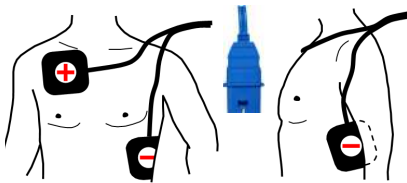
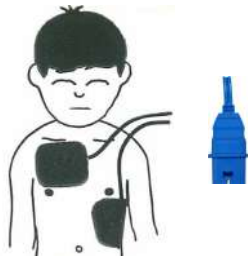

Fig. 5.2 Adult electrode application sites
Fig. 5.3 Electrode application sites for children weighing 25 kg or more
Electrode placement is the same for adults and for children weighing 25 kg or more (see Fig. 5.2 Adult electrode application sites and Fig. 5.3 Electrode application sites for children weighing 25 kg or more).
1. Clean and dry the application points for the electrodes (see Fig. 5.2 Adult electrode application sites page 86/Fig. 5.3 Electrode application sites for children weighing 25 kg or more page 86). Only clean the skin by vigorously rubbing it with a dry cloth.
3. Apply the other electrode slantwise below the left breast as illustrated in Fig. 5.2 Adult electrode application sites page 86/Fig. 5.3 Electrode application sites for children weighing 25 kg or more page 86).